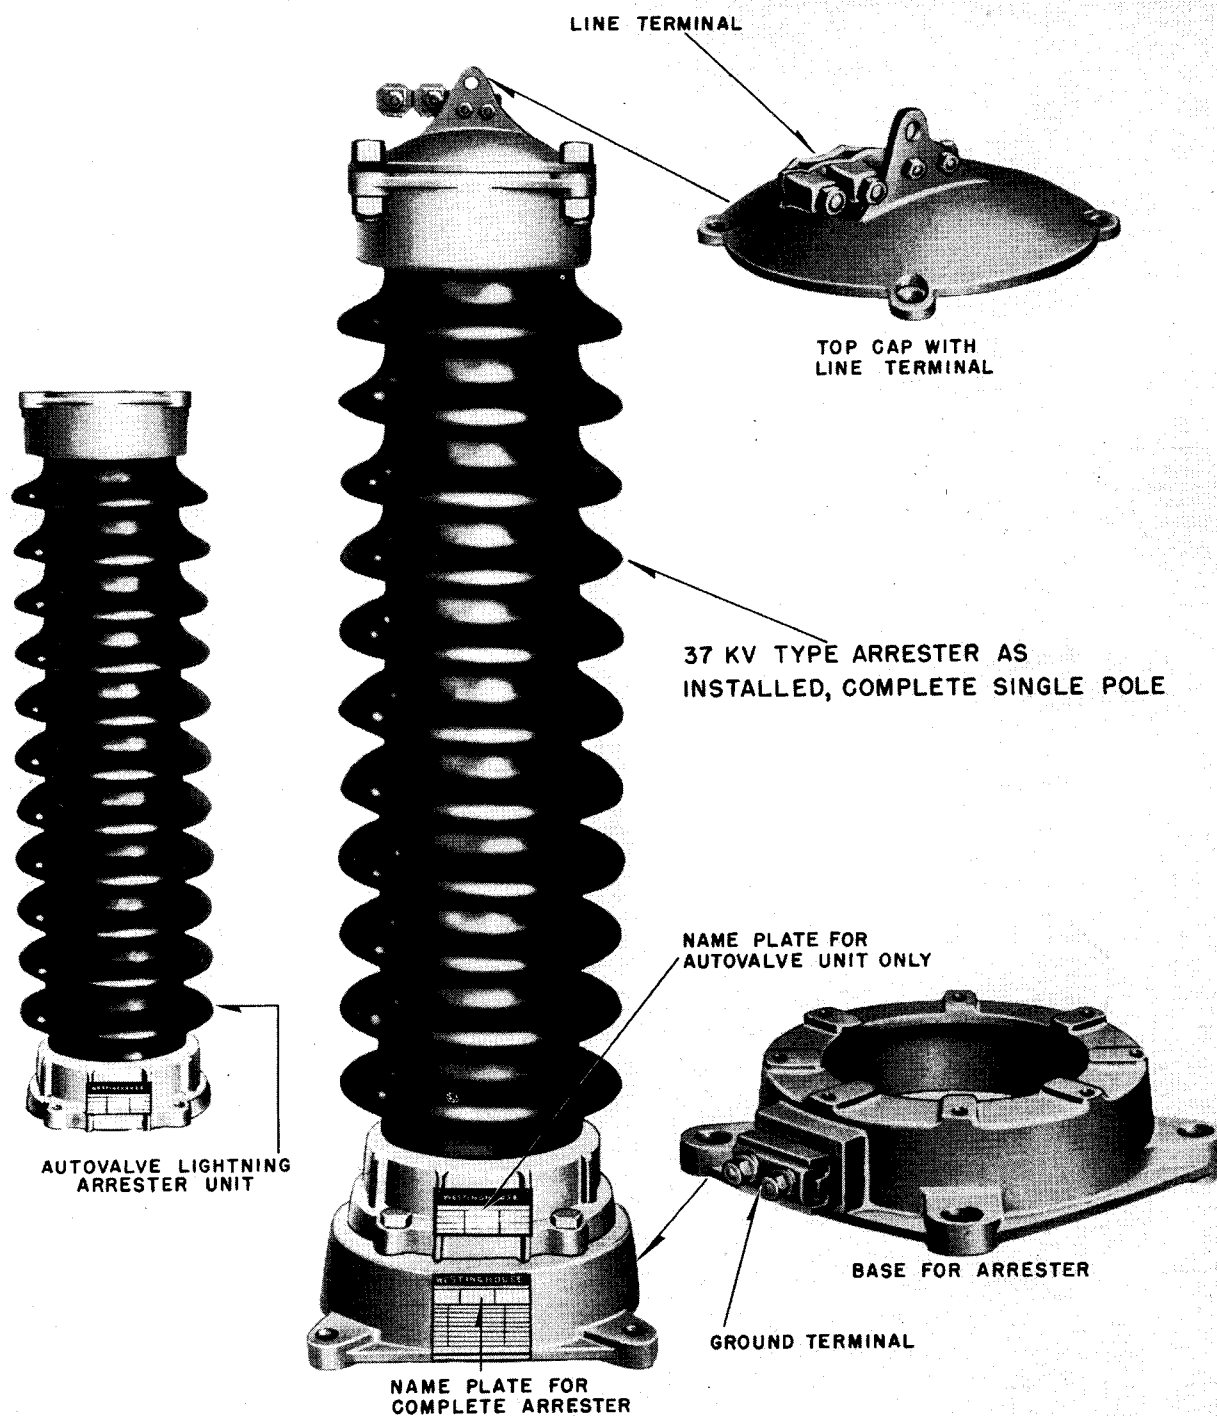
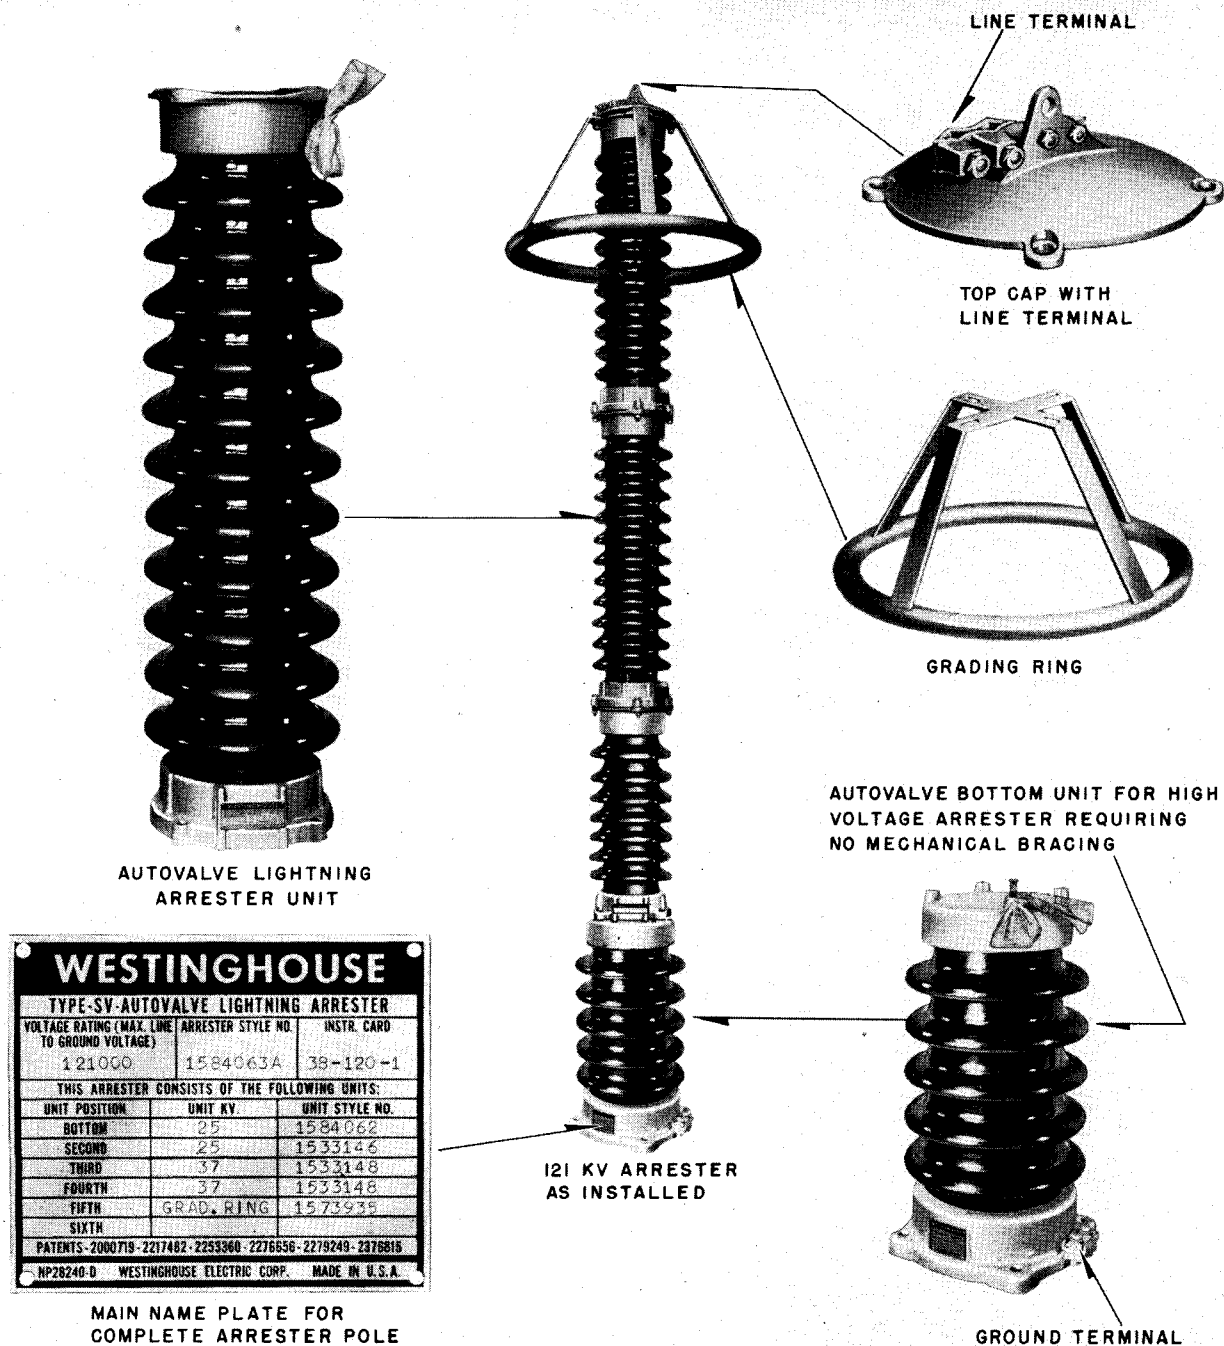
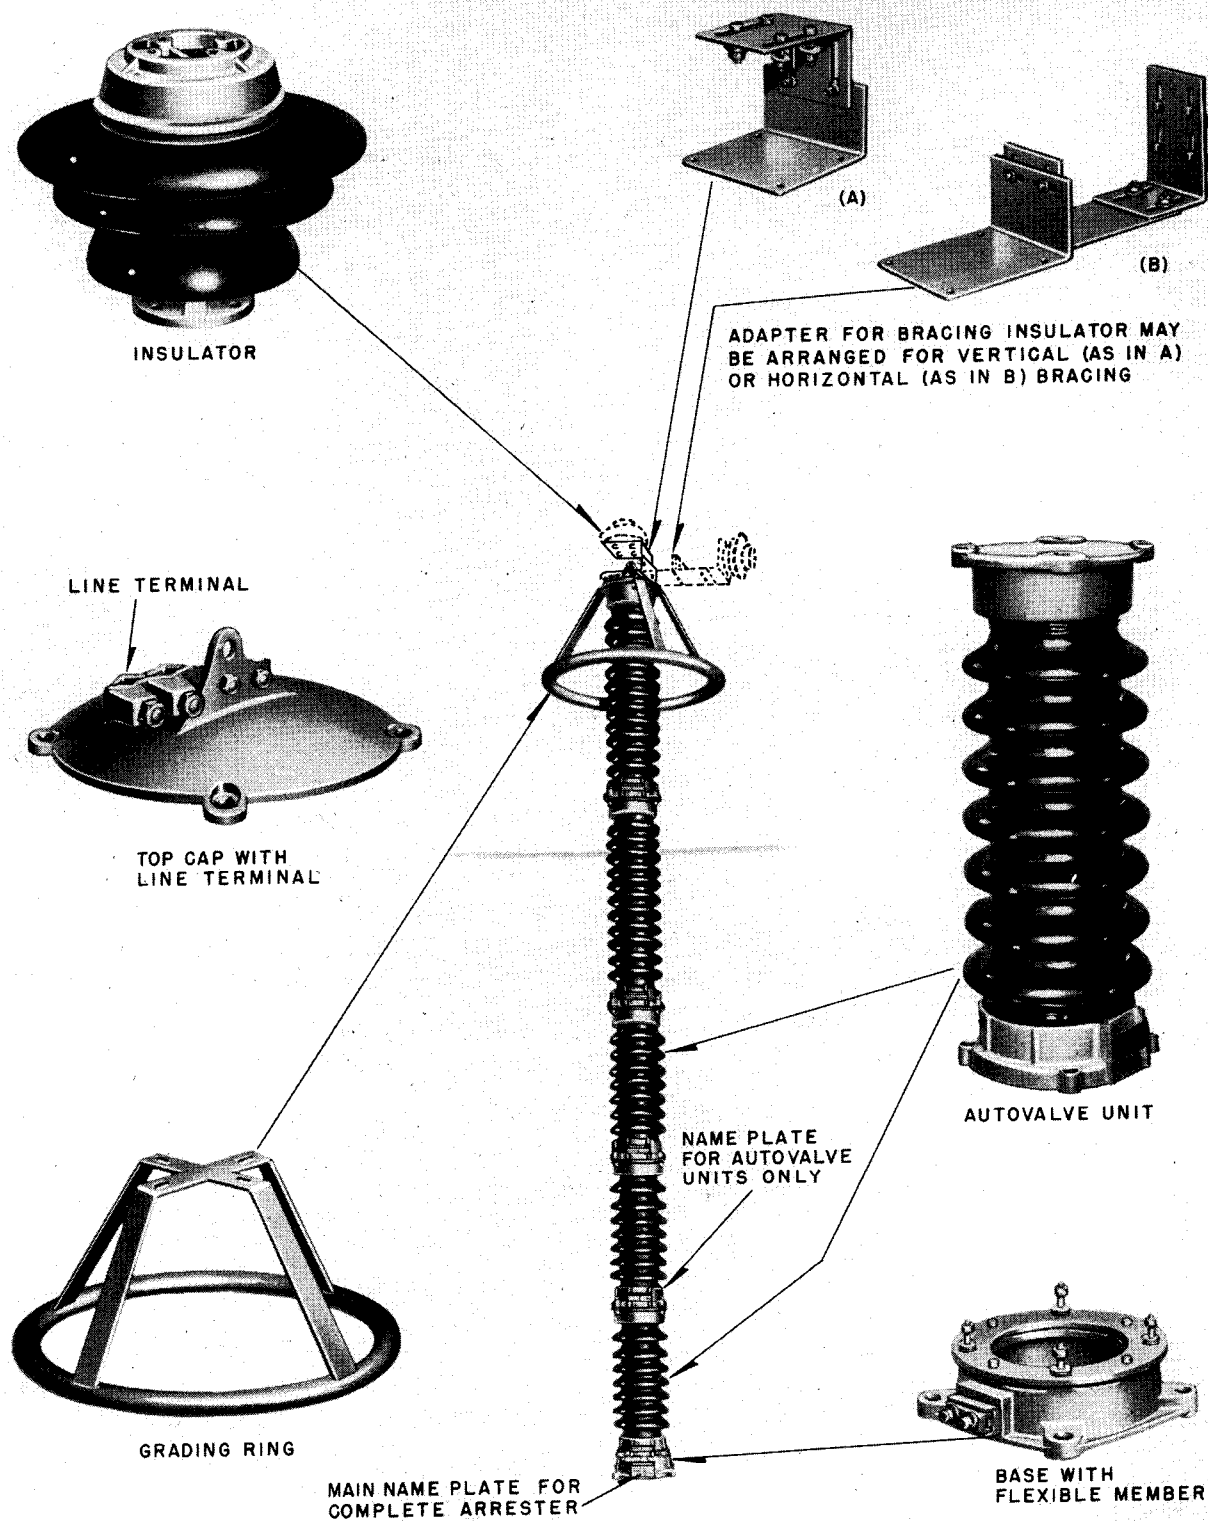

FIG. 1. Typical 37 kv Type SV Autovalve Lightning Arrester
FIG. 2. 121 kv Type SV Autovalve Lightning Arrester Complete Single Pole and Component Parts
FIG. 3. 145 kv Type SV Autovalve Lightning Arrester
- (a) The arrester unit or units; these are the porcelain weather casings with metal end castings, Figs. 1, 2, 3. They contain all of the operating elements. Each unit has a small nameplate mounted on the bottom end casting giving the identification and rating of the unit only. The necessary hardware is in a sack tied to one end casting of each unit.
- (b) Cap with line terminal attached, Figs. 1, 2, 3.
- (c) Base with ground terminal and nameplate giving the identification and rating of the complete arrester pole, Fig. 1. This separate base is not furnished with the 121 kv arresters, Fig. 2.
- (d) In the case of arresters with ratings of 97 kv and higher a grading ring, as shown at the right of Fig. 2, to be attached to the top of the column of units, between the top unit casting and the cap.
3 to 37 kv inclusive	One arrester unit plus base and cap. (See Fig. 1).
The 121 kv arresters include a large substantial unit to be used as the bottom unit as illustrated in Fig. 2. These arresters do not have separate bases, but the bottom arrester unit is bolted directly to the foundation. Standard units are bolted to this unit to make the complete arrester pole. 121 kv arresters include a grading ring and a cap.
A typical main nameplate is shown in Fig. 2. It gives the voltage rating and style number of the complete arrester. In addition to this, the lower part of the nameplate shows the voltage ratings and style numbers of the arrester units of which the arrester consists, listed in the proper order of assembly, starting from the bottom. In any inquiries about the lightning arrester, refer to the type, voltage rating, and style number given at the top of the large nameplate covering the complete arrester.
Start with the base. For all arresters of 3 kv to 109 kv inclusive, the same base is used. This base (shown in Fig. 1) has no flexible steel spring ring, such as is supplied with the high voltage, braced arresters (Fig. 3). Make sure that the proper base is received. Should a base with a spring ring as shown in Fig. 3, be shipped by mistake, remove the spring ring and discard it.
On 97, 109, and 121 kv arresters add the grading ring and the cap as in Fig. 2. The arrester is now complete except for the connection of the line and ground leads.
On the 121 kv arresters (Fig. 2) the unit is placed between the foundation and the bottom arrester unit.